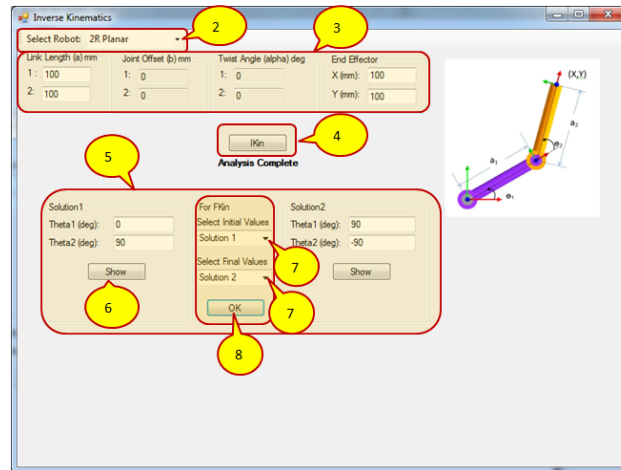

Figure 16: Inverse Kinematics of 3R Articulated Robot
1. Click on **IKin** button. It shows a separate window (Figure 16)